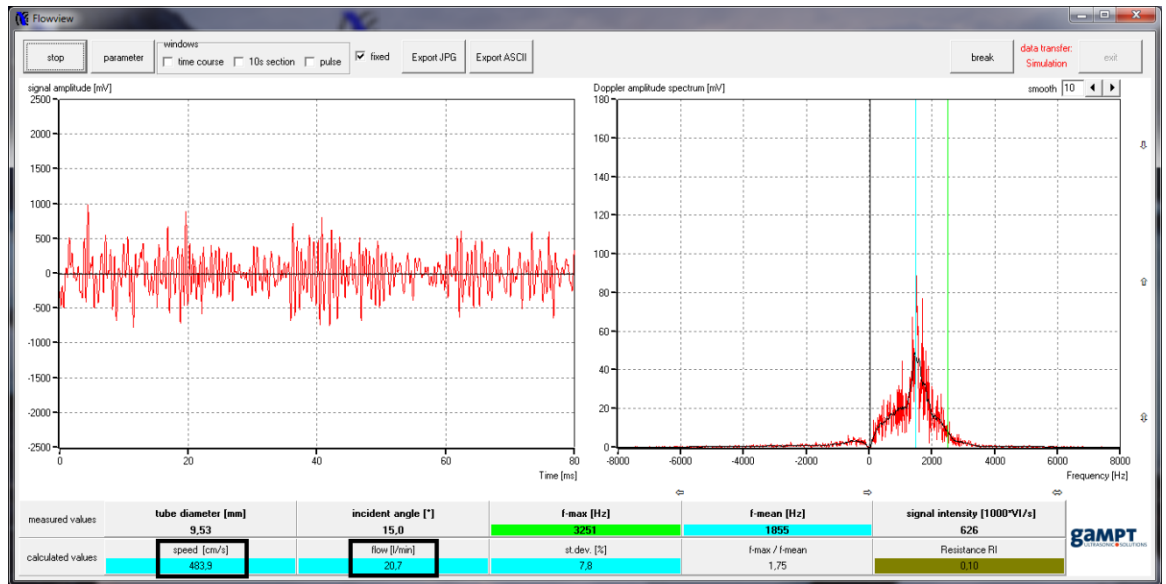

Figure 6. Main window of the programme.
8. Measure the speed v and the flow rate Q (figure 6).